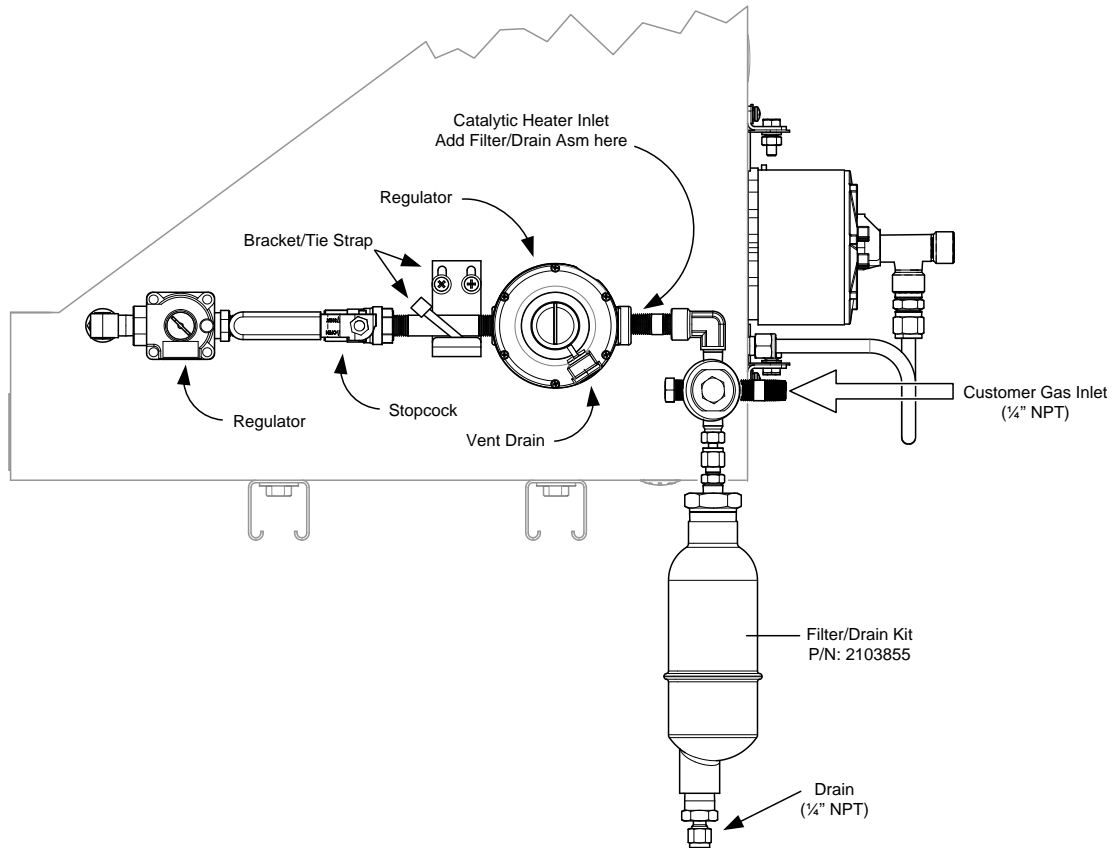

Figure 3-53 ENC82S Filter/Drain Assembly Installation
- 3) Insert the port one nipple on the filter/drain assembly into the output port on the regulator and tighten the nut (see Figure 3-53).